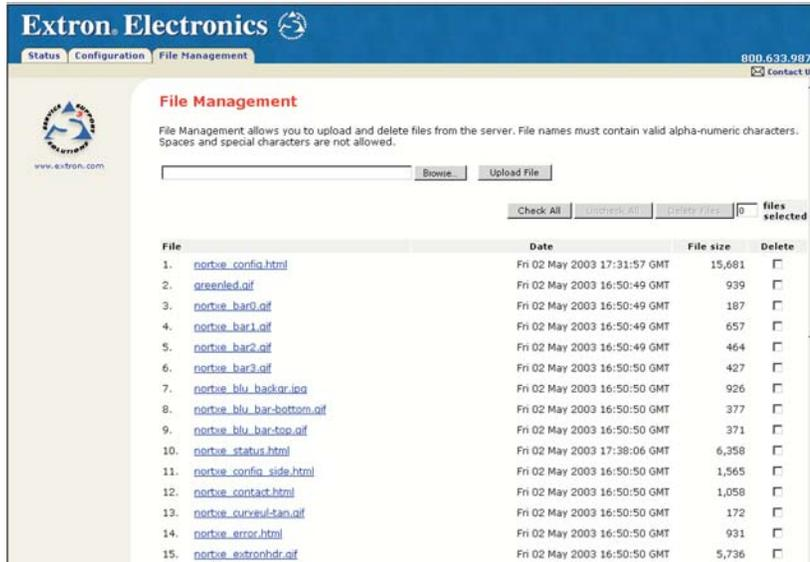

Figure 4-6 — File Management screen
1. Select the File Management tab. The File Management screen (figure 4-6) opens.